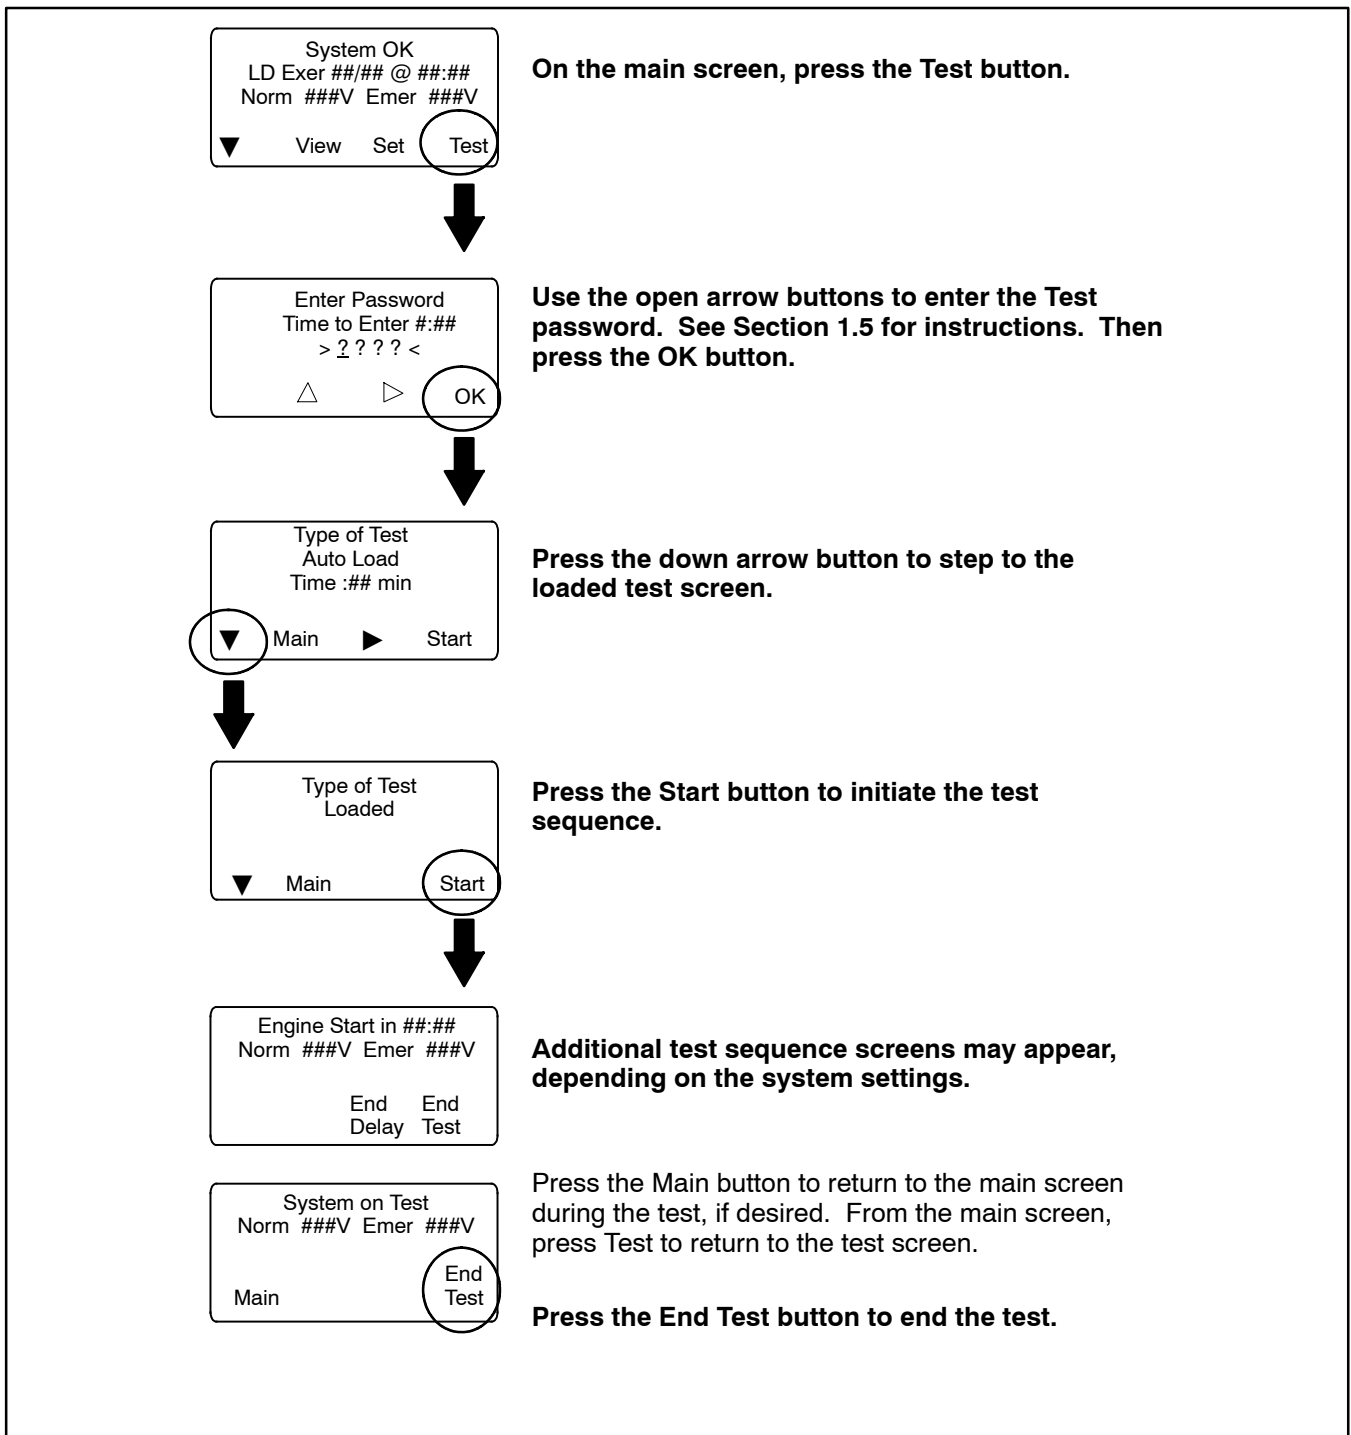

Figure 1-17 Starting and Stopping the Automatic Operation Test
3. Refer to Figure 1-17. From the main screen, press the Test button. Enter the test password when prompted and press OK.